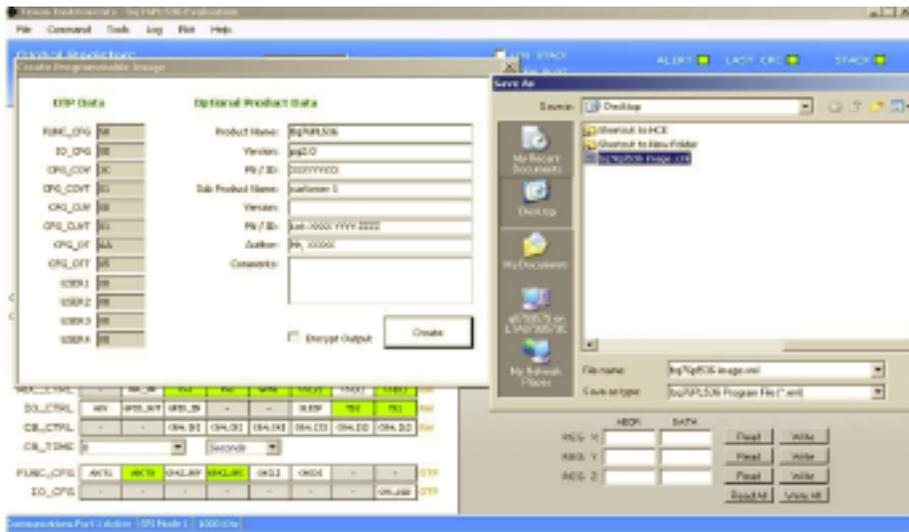

Figure 6. Saving Image File
- (c) Save image file in YYYYYY.xml format (Figure 6).